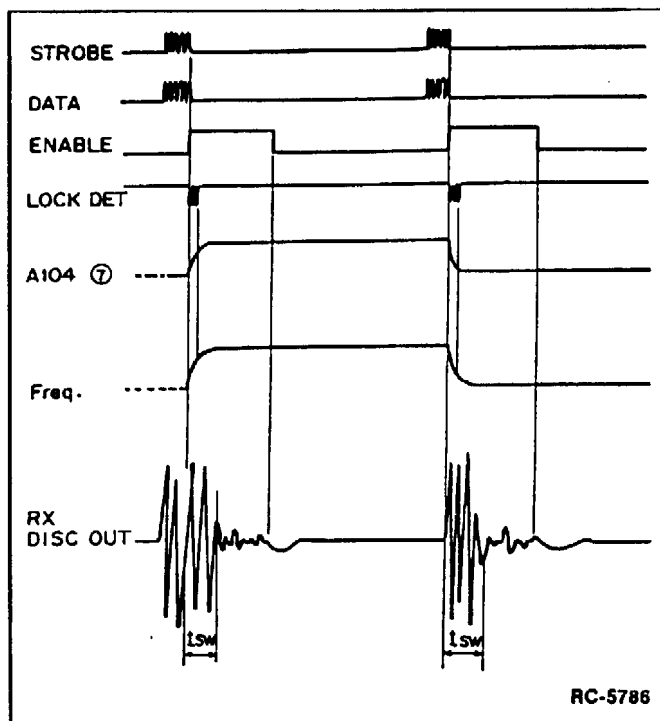

Figure 3 - Logic Format
- b. The channel switching sequence and the action of the related functions are shown in Figure 3.